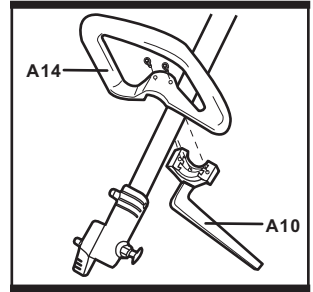

Fig. 1
- 3). Place the handle onto the shaft from the top and secure it with the longer screws. Tighten them with the hex key (D3). (See Fig. 1)